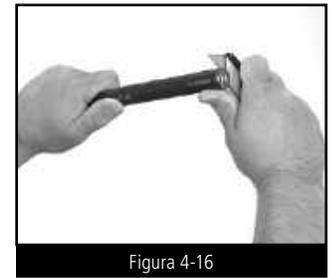

Figura 4-16
PASO 2 CORTE Y QUITE LAS CAPAS DEL ENCAMISADO (FIGURA 4-16)